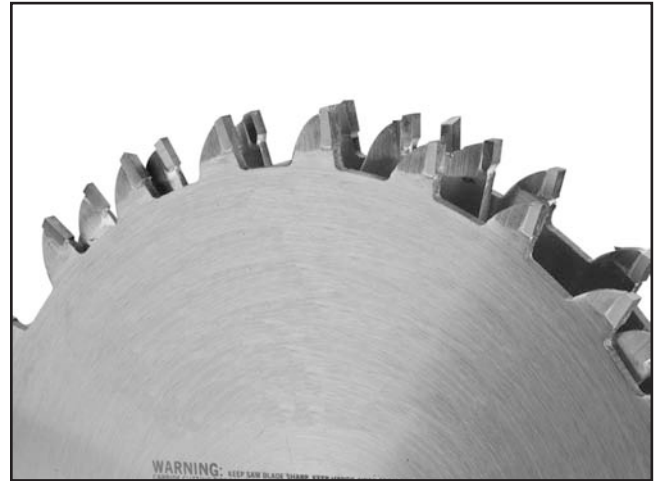

Figure 42. Stacked dado blade.
- **Stacked Dado Blade:** These dedicated dado cutting blade sets consist of up to 8 individual blades. Multiple cutters are "stacked" between two outside blades. The width of the dado is determined by the combination of cutters that are "stacked" together. The dado is cut in a single pass leaving a smooth and square channel in the face of the workpiece. Stacked dado blades are the most expensive option, but are worth considering if your projects require a lot of visible dado cuts. A stacked dado blade is shown in **Figure 42**.